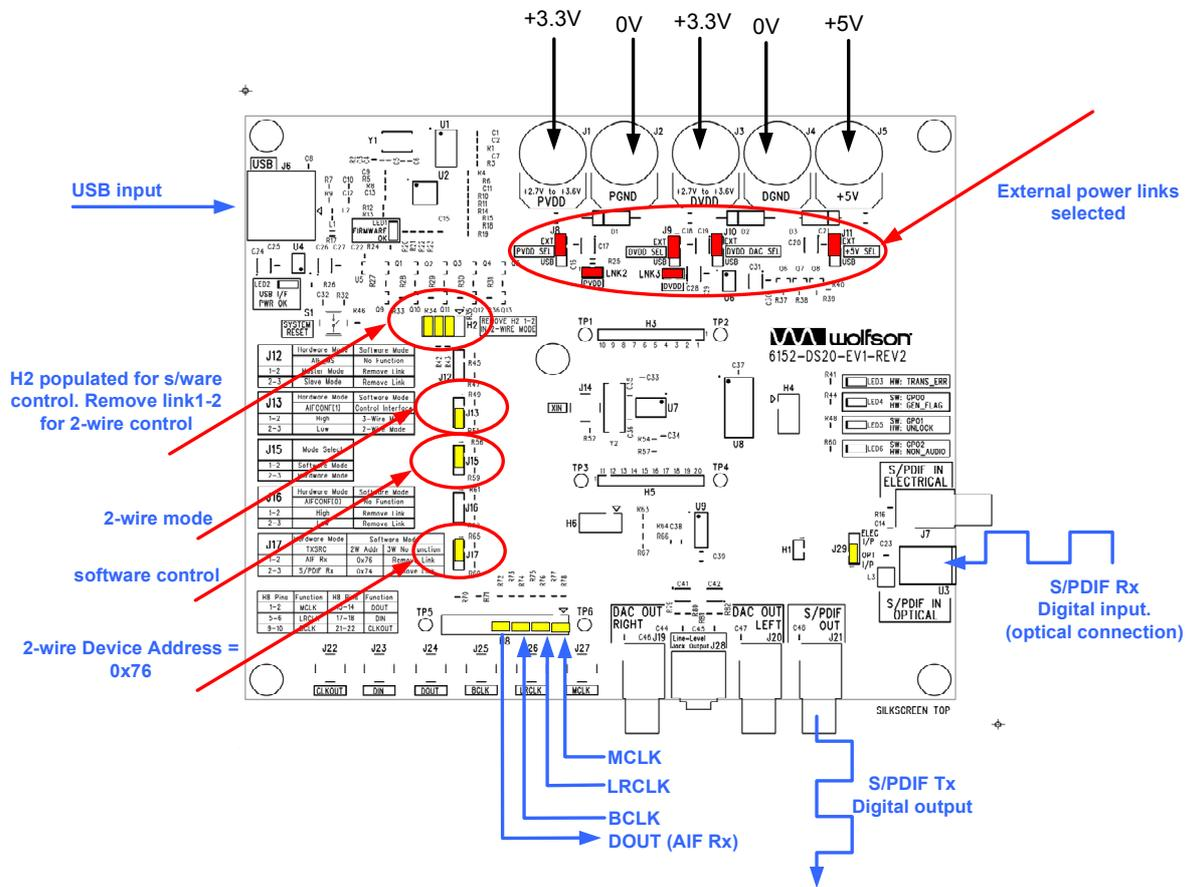

Figure 10 S/PDIF RX0 Optical Input S/PDIF TX0 Evaluation Board Configuration
- Figure 10 illustrates the jumpers which must be made on the board.
The jumpers, input signals and output signals are shown in Figure 10. The yellow jumpers are those that are required.